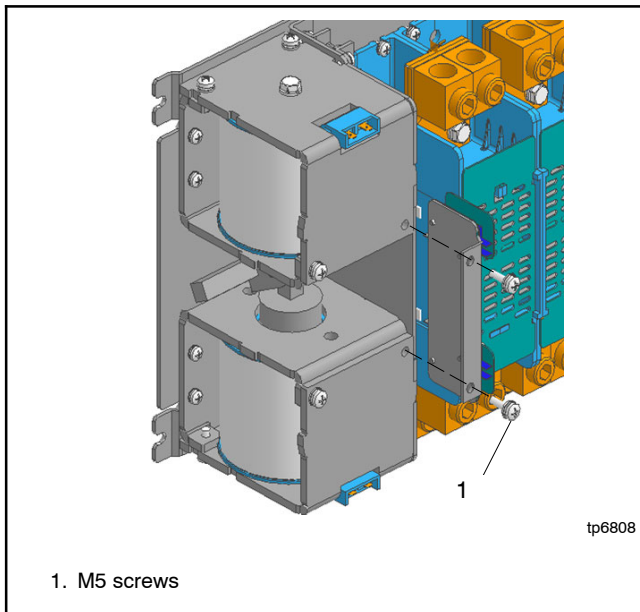

Figure 7-47 Microswitch Mounting Plate
2. Replace the microswitch mounting plate and reinstall the two M5 screws. See Figure 7-47. Tightening torque for the M5 screw: 3 Nm.